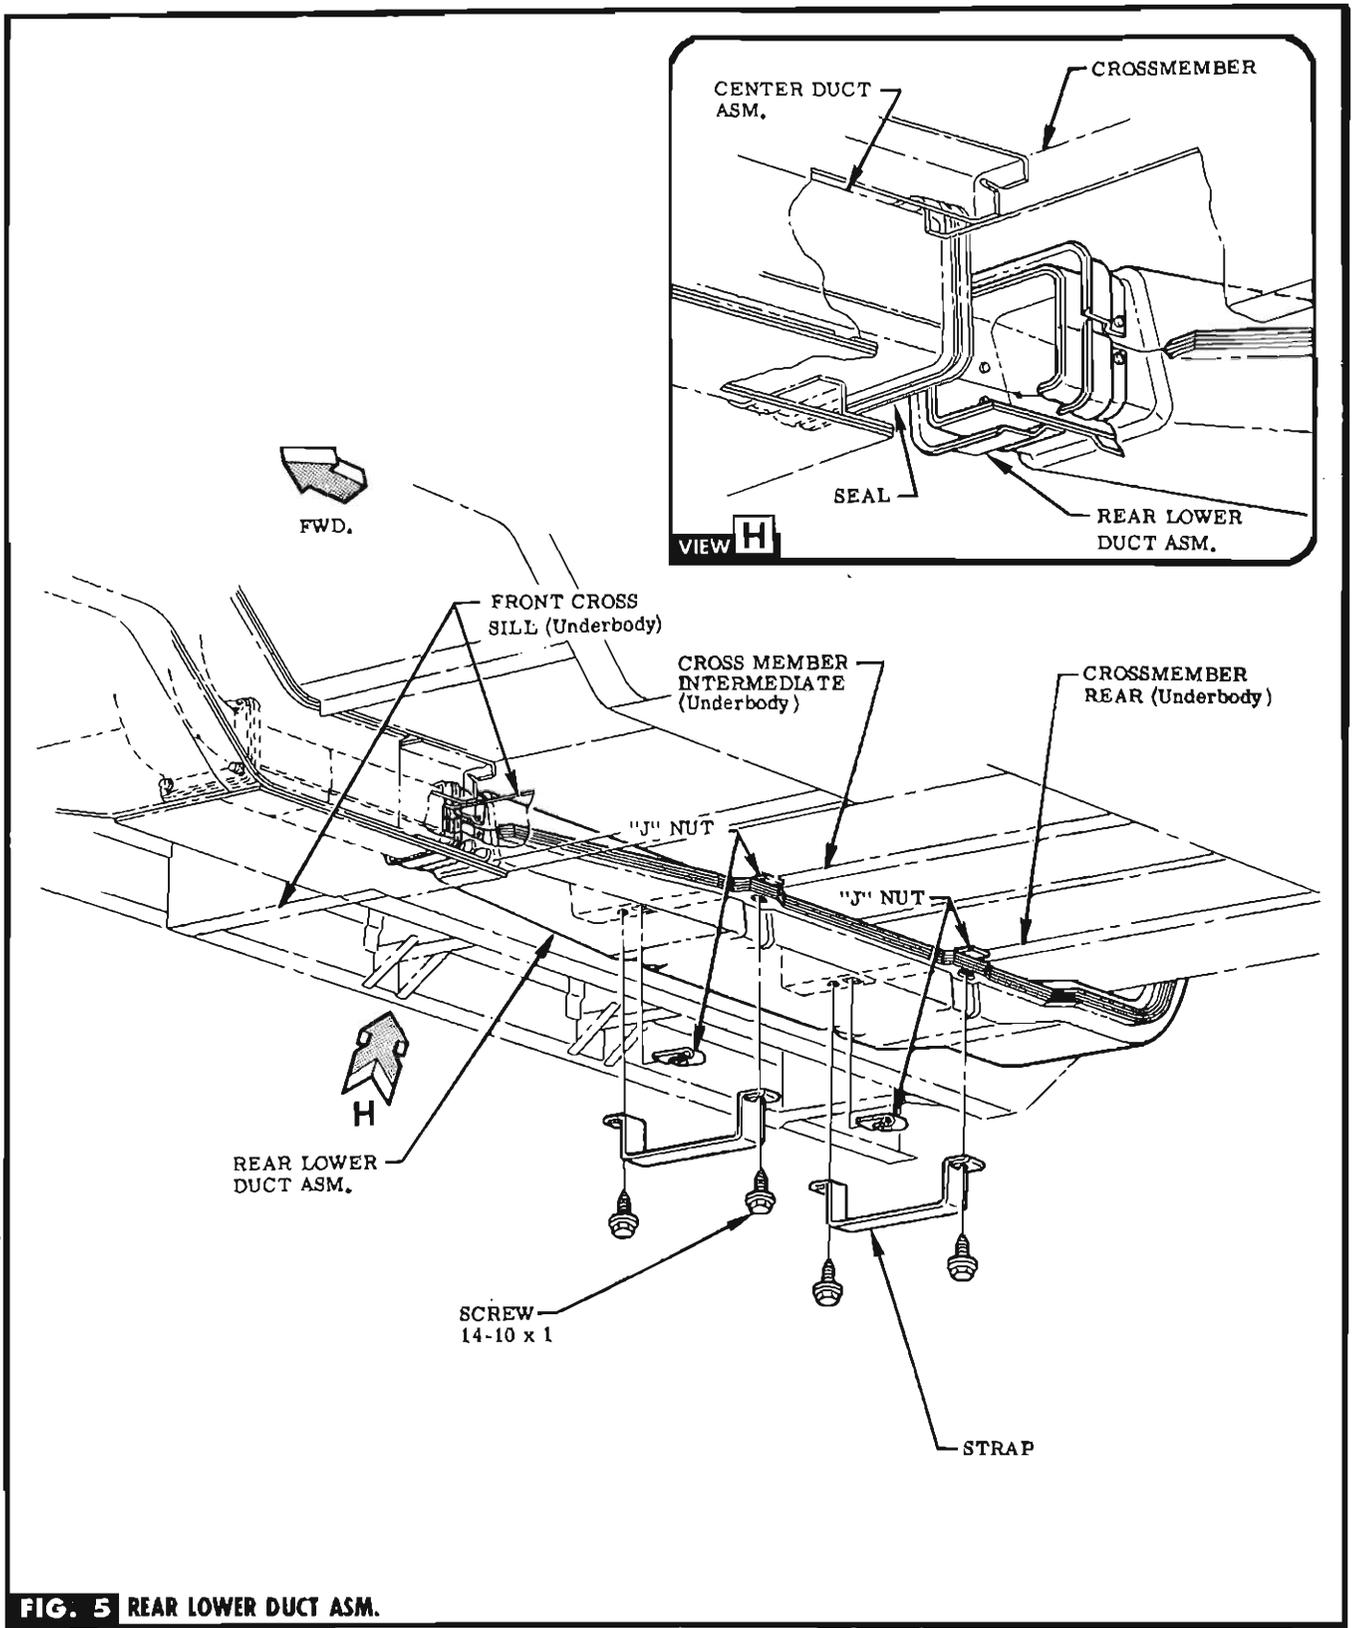

FIG. 5 REAR LOWER DUCT ASM.
STEP 27 INSTALL STRAPS AT NOTCHES IN REAR LOWER DUCT WITH SCREWS (LOOSELY ASSEMBLED) (IN BAG B). SEE FIG. 5.